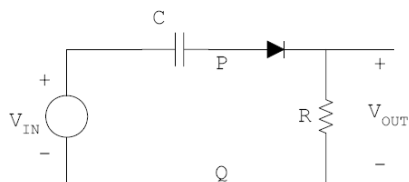

Fig. 4
**5** We connect the circuit of Fig. 4 with  $C = 0.1 \mu\text{F}$  and  $R = 10 \text{ K}\Omega$  and apply a 10 V peak-to-peak, 1 KHz sinusoidal input. We observe  $V_{\text{OUT}}$ , similarly from the oscilloscope first without the diode then with the diode.
**When we plugged the R- 1K resistor across PQ, the capacitor started to discharge into the resistor. Therefore a measurable output voltage was created. Dividing the circuit of figure 4 into two parts that are:**